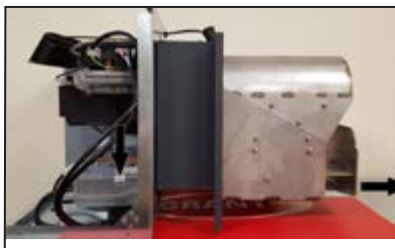

Figure 11-12: Manual opening of brazier
- To operate the switch and release the motor, press and hold the switch down. Refer to Figure 11-12.